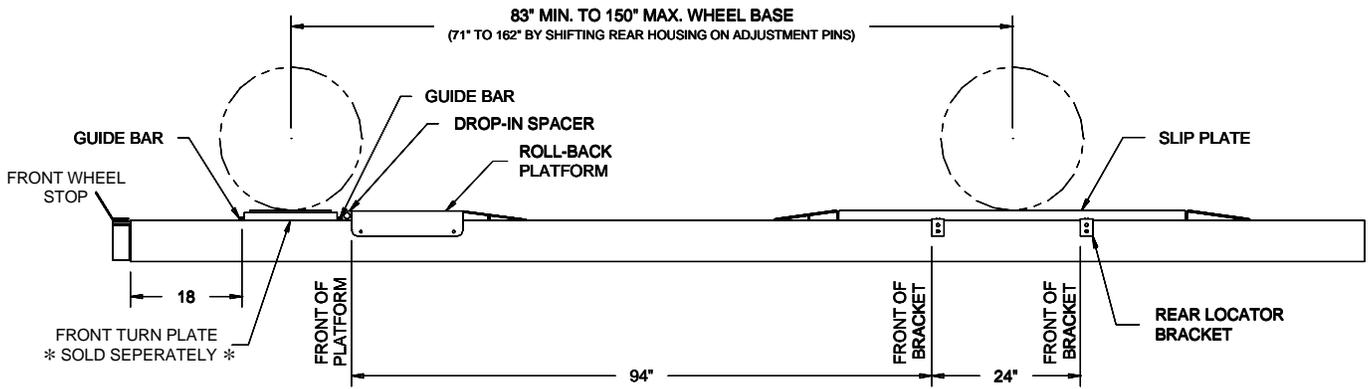

Fig 1 – General Specifications and Layout
- 1) Raise the lift to a comfortable work height and lay out the Bolt-On Alignment Kit components on the lift runways, see Fig 1. (Note: all left and right components are identical except the Front Roll-Back Platforms)
**IMPORTANT:** Locations illustrated in Fig 1 are only suggested and may be repositioned to better suit specific needs. If Front Turn Plates are positioned less than 18" from the front cross beam, ensure the alignment equipment will clear the front wheel stop.